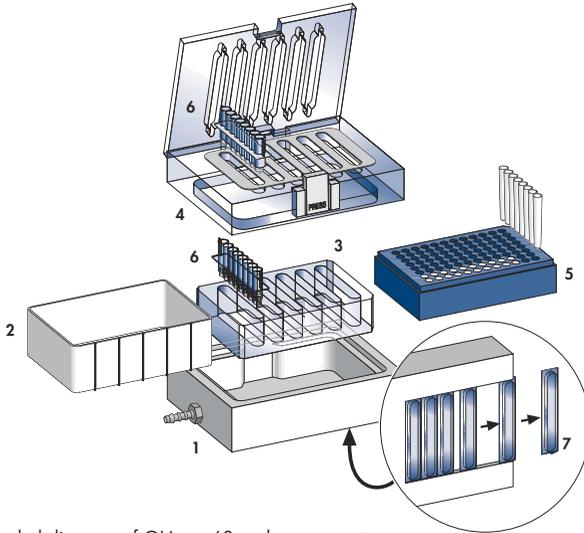

Figure 2 Exploded diagram of QIAvac 6S and components
- Use the blanks provided to close unused slots of QIAvac 6S. Blanks are stored in the underside of the QIAvac base plate when not in use (Figure 2). Do not store blanks in slots of the QIAvac 6S top plate as this can cause deformation of the gasket.